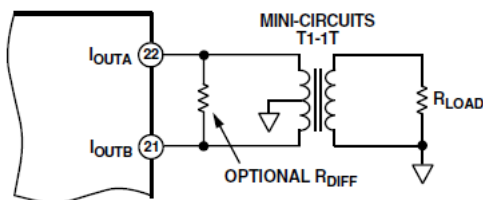

Figure 22. Differential Output Using a Transformer
Figure 22 shows the 3PD9708(E) in a typical transformer coupled output configuration. The center-tap on the primary side of the transformer must be connected to ACOM to provide the necessary dc current path for both IOUTA and IOUTB. The complementary voltages appearing at IOUTA and IOUTB (i.e., VOUTA and VOUTB) swing symmetrically around ACOM and should be maintained within the specified output compliance range of the 3PD9708(E). A differential resistor, RDIFF, may be inserted in applications in which the output of the transformer is connected to the load, RLOAD, via a passive reconstruction filter or cable. RDIFF is determined by the transformer's impedance ratio and provides the proper source termination. Note that approximately half the signal power will be dissipated across RDIFF.